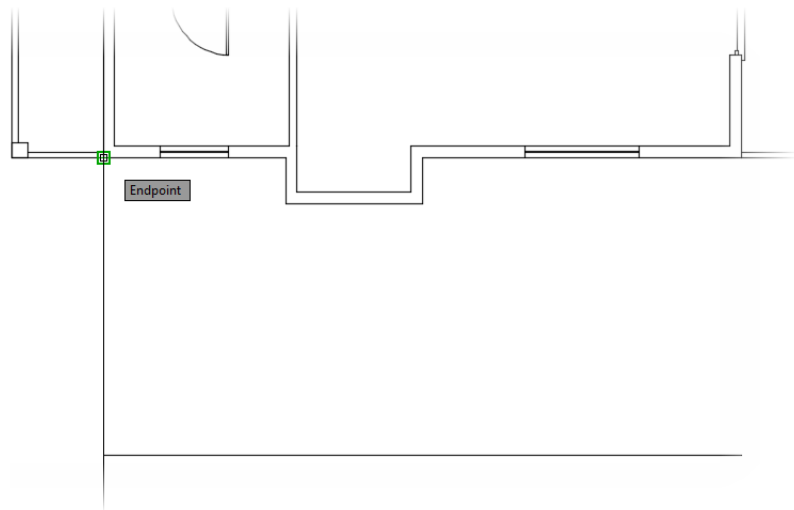

FIGURE 10.6: Drawing a construction line to represent the outside wall by the bathroom
- Using the Endpoint osnap, choose the lower-left outside wall by the bathroom, as shown in Figure 10.6. Keep this drawing open as you continue to the next exercise.